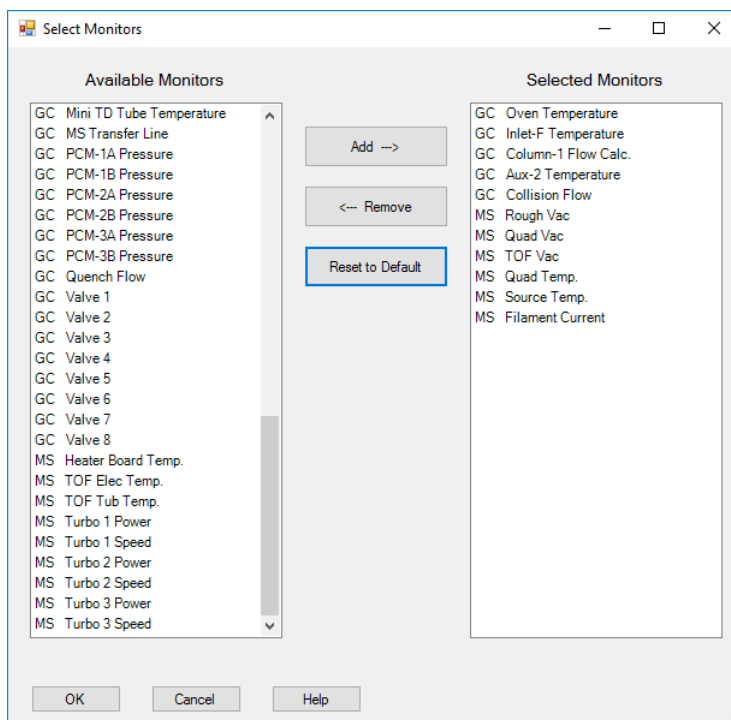

Figure 7. Select Monitors dialog box
- 1 Select **Instrument > Edit Monitors** to display the **Select Monitors** dialog box. (See Figure 7.)